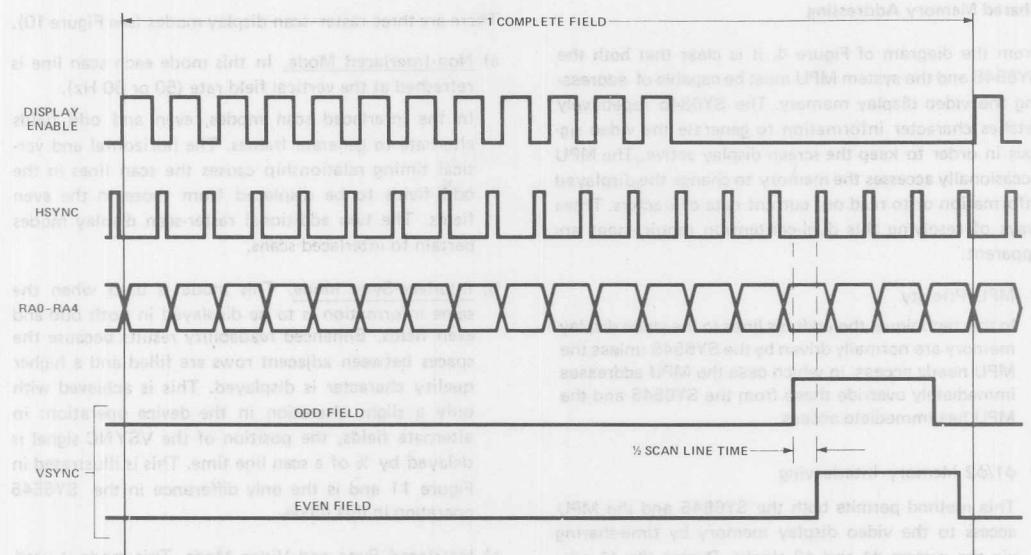

Figure 11. Interlace-Sync Mode Timing
- b) **Interlace-Sync Mode.** This mode is used when the same information is to be displayed in both odd and even fields. Enhanced readability results because the spaces between adjacent rows are filled and a higher quality character is displayed. This is achieved with only a slight alteration in the device operation: in alternate fields, the position of the VSYNC signal is delayed by $\frac{1}{2}$ of a scan line time. This is illustrated in Figure 11 and is the only difference in the SY6545 operation in this mode.